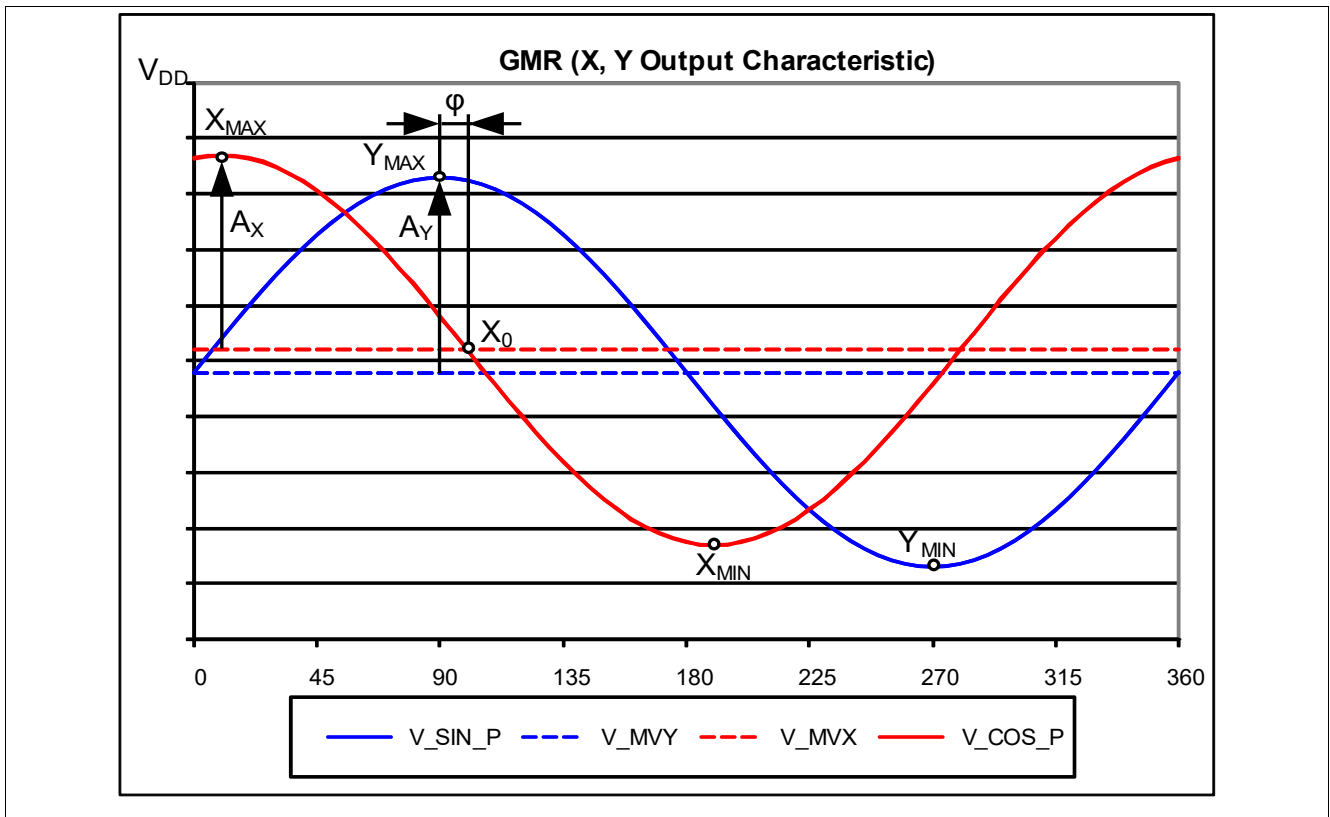
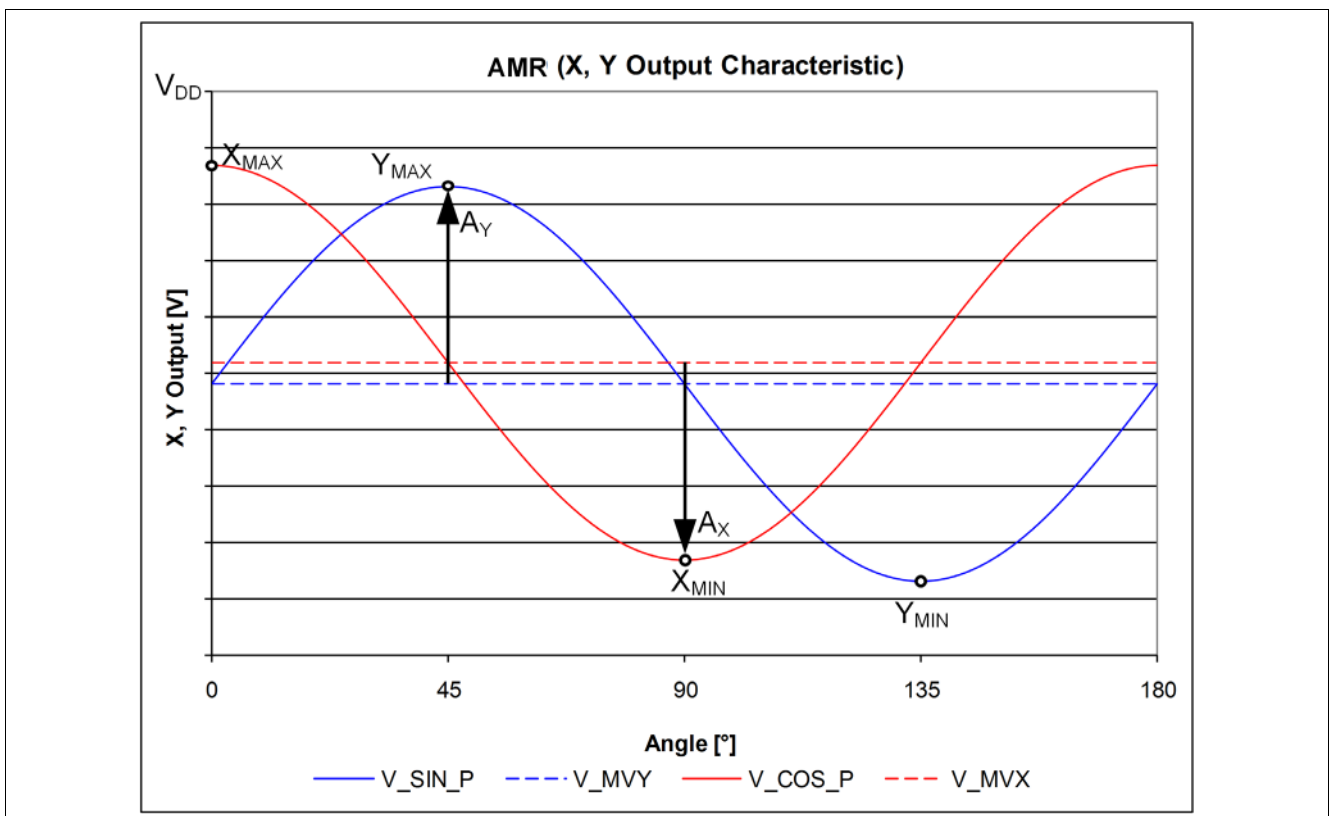
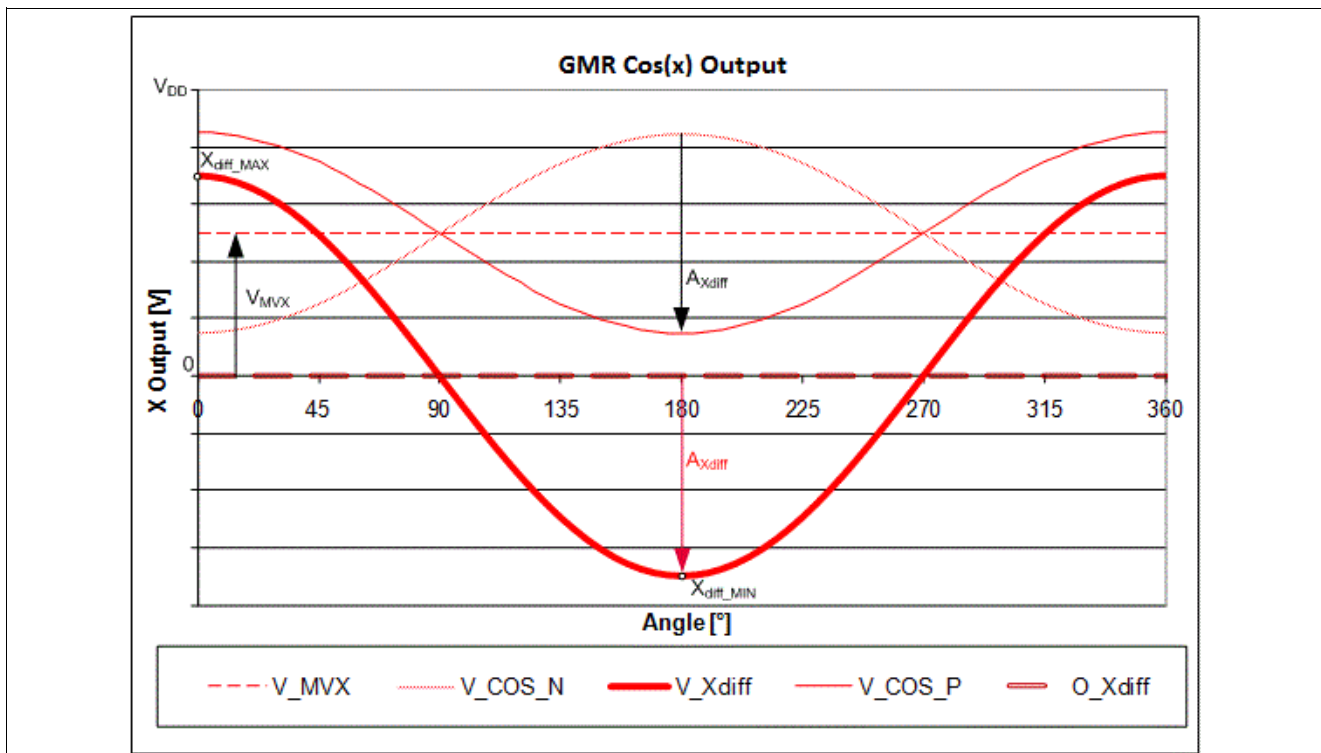

Figure 17 GMR sensor single-ended output signals
Figure 18 AMR sensor single-ended output signals
Figure 19 GMR differential output of ideal cosine
All parameters apply over the full operating range, unless otherwise specified. The parameters in **Table 9** refer to single pin output and **Table 10** to differential output. For variable names please refer to **Figure 17 “GMR sensor single-ended output signals” on Page 20** and **Figure 19 “GMR differential output of ideal cosine” on Page 21**.
1) V_{max} and V_{min} correspond to the voltage levels at X_{max} or Y_{max} and X_{min} or Y_{min} respectively as shown in Figure 17, Figure 18.